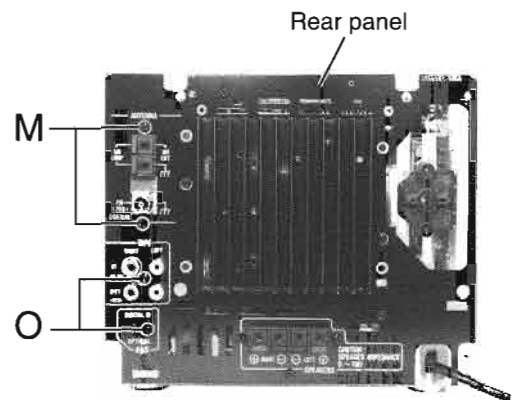

Fig.25
(See Fig.25 and 26)
(See Fig.25 and 27)
4. Remove the screw M attaching the tuner board assembly (Refer to Fig.25).